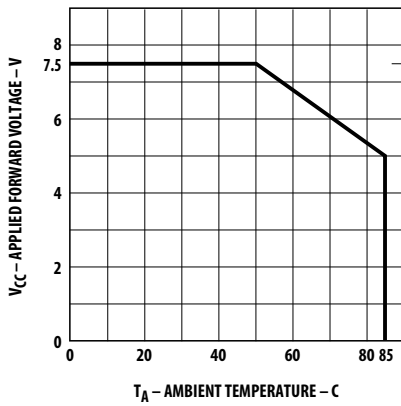

Figure 3. Maximum allowed applied forward voltage vs. ambient temperature $R\theta_{JA} = 175^{\circ}\text{C}/\text{W}$. 5 volt devices.
2. Derate from $T_A = 50^\circ\text{C}$ at $0.071 \text{ V}/^\circ\text{C}$, see Figure 3.